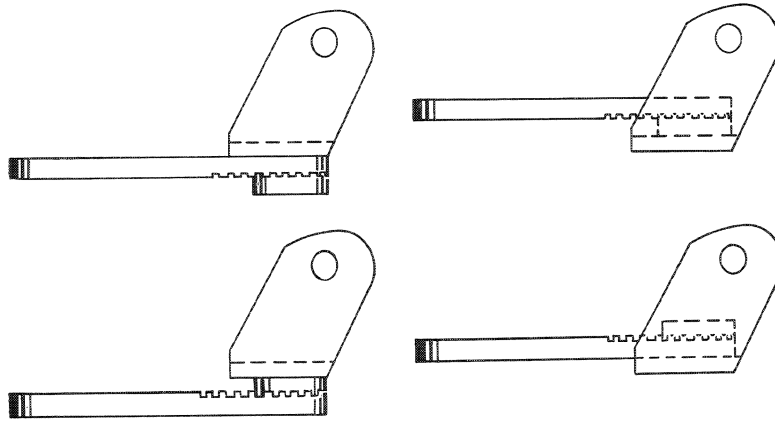

FIGURE 3
5. Position the universal hitch plate above or below the mower support with the serrated end to the rear as illustrated in Figure 3, so that the left side of the support bar is slightly lower than the right side if possible. This will leave the mower frame in a level position when operating. Use shims furnished on either end to close any extra clearance between the drawbar member and the hitch plate or the mower support bar and the hitch plate. **NOTE:** The shims may be welded to the hitch plate for ease of assembly after the initial attachment. If possible, select a hole in the universal hitch plate the same size as the hole in the stationary tractor drawbar **and tighten securely.**